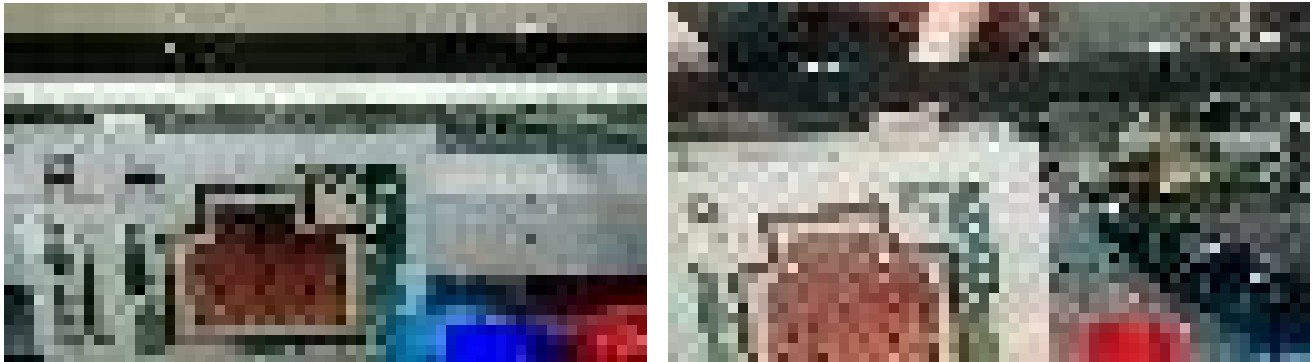

Figure 1-5
- Figures 1-5 shows an example of the bitmaps that were captured and saved. Note that the bitmaps are scaled down to 36 by 64 pixels. This lowers file size without compromising accuracy.